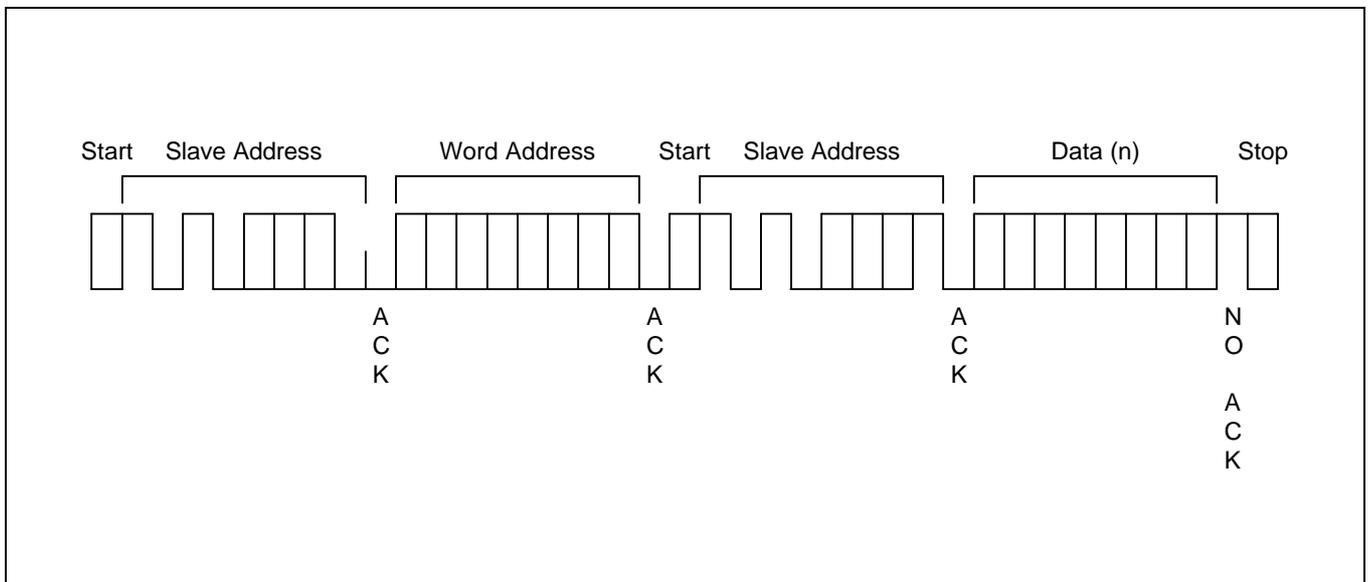

Figure 4-14. Random Address Byte Read Operation
5. In response, the S524C20D10/20D20/80D40/80D80 stops transmitting data and reverts to its stand-by mode (see Figure 4-14).